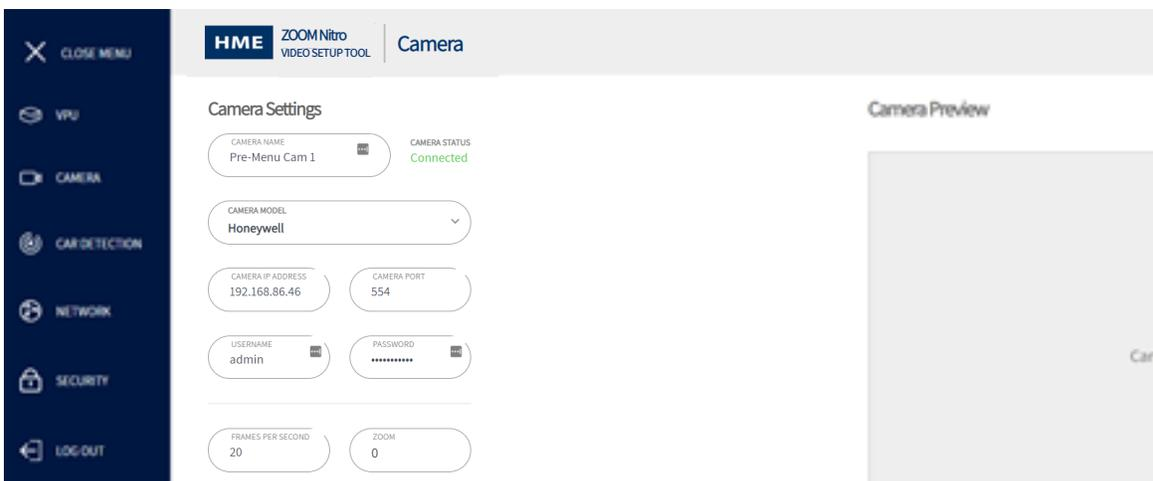

Fig. 5.2
6. Go to the CAMERA page and confirm that Camera Status is “Connected.” The system will display the Camera Settings as shown in Fig. 5.2, verify or set the following fields to match those under Value/Description in Table 5.1 (however, the IP address will vary). The Camera Name can be changed but it is recommended that no other fields are changed unless the camera is not auto-detected.